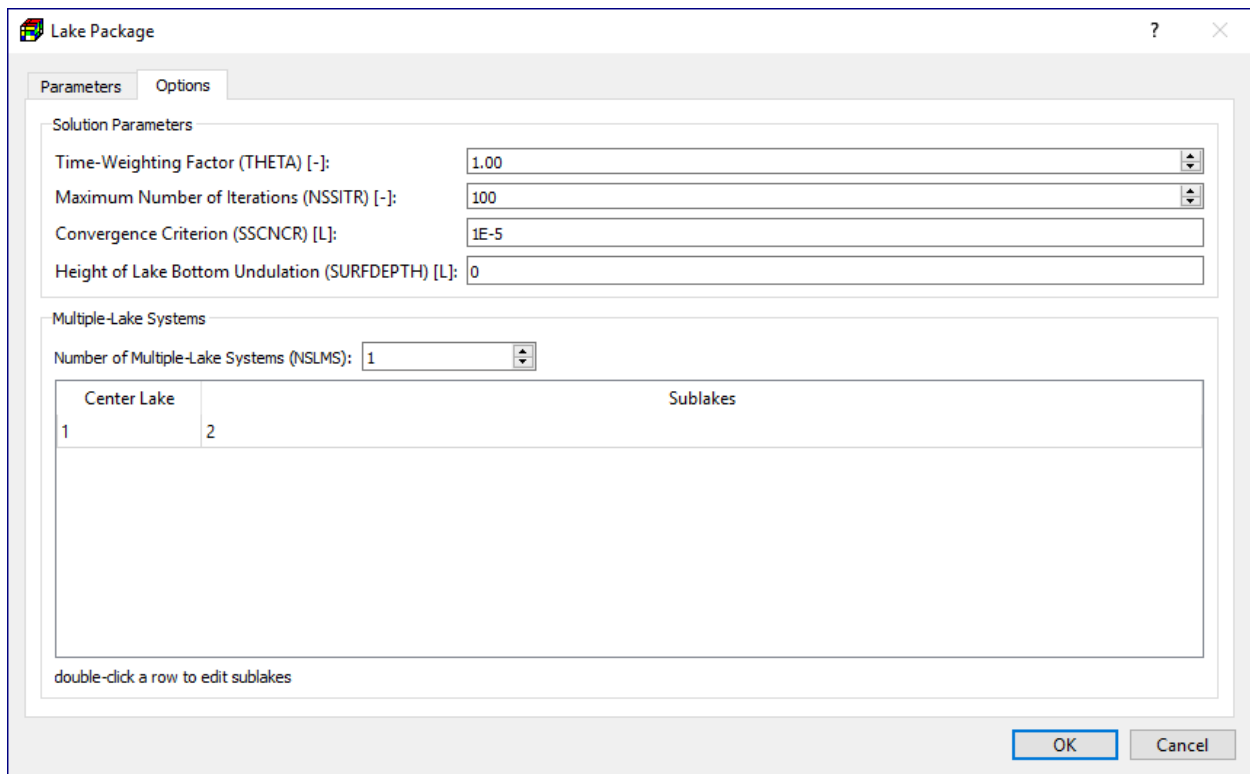
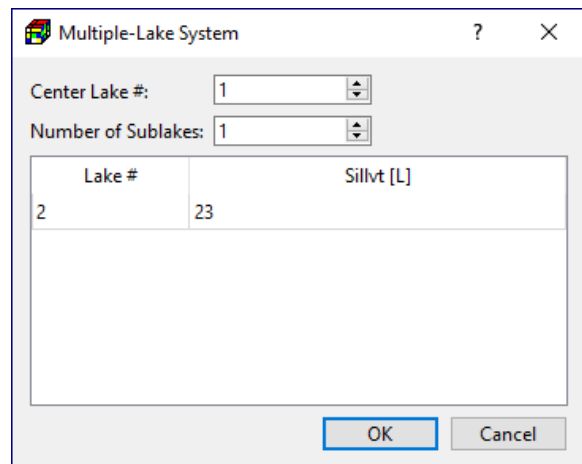

Figure 72. The Options tab of the Lake Package dialog box
Figure 73. The Multiple-Lake System dialog box
- **Options Tab** (Figure 72)
- **Table:** Each row of the table in Figure 72 represents a multiple-lake system. The Center Lake column lists the lake identification number of the center lake of the system; the Sublakes column lists the lake identification numbers of sublakes of the system. Double-click a row to edit the multiple-lake system in the Multiple-Lake System dialog box (Figure 73). The items of the dialog box are as follows: